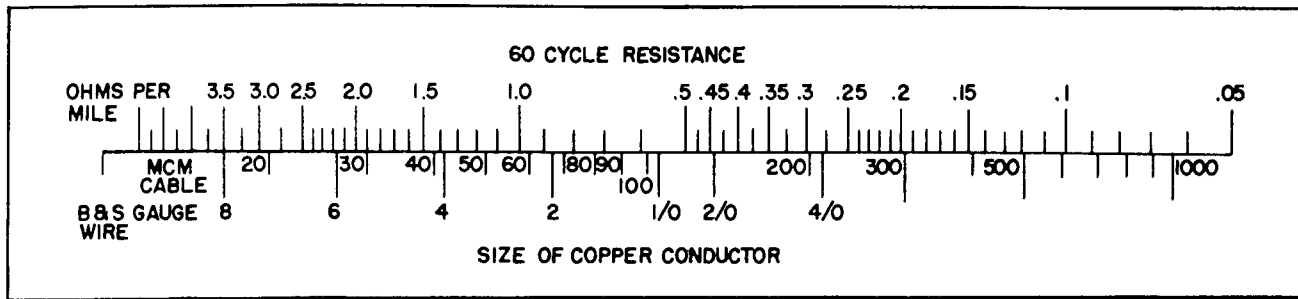

FIG. 9. Resistance Chart, Showing Ohms per Conductor per Mile, 60 Cycle Circuit
**Line-Drop Compensator Settings.** The final settings on the line-drop compensator are usually made by field adjustments, but if the data on the particular line is known, the curves in FIGS. 9 and 10 may be used, and initial values calculated.
From FIG. 9: